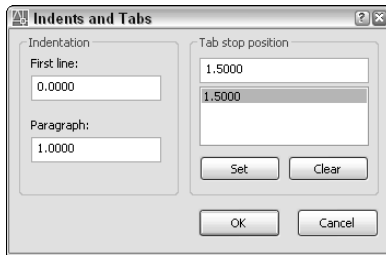

**Figure 13-16:** Use the Indents and Tabs dialog box to set indents and tabs for your text.
- ♦ **Indents and Tabs:** Opens the Indents and Tabs dialog box, as shown in Figure 13-16. You can set the following parameters: